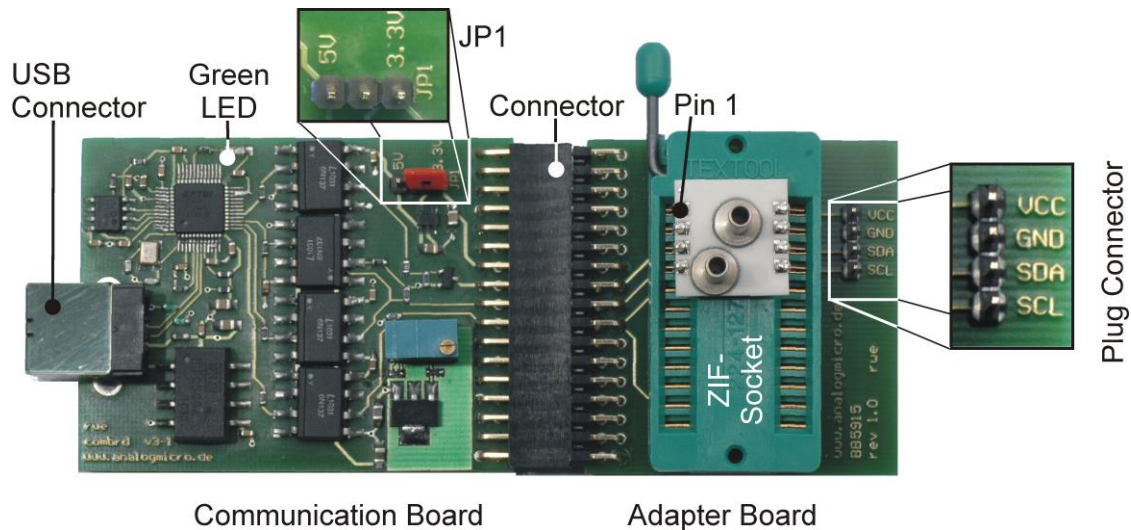

Figure 1: USB Starter Kit AMS 5915 with connected sensor.
The starter kit hardware consists of two printed circuit boards: the communication board *CB-I2C* and the adapter board *BB5915* with a ZIF-socket to connect one AMS 5915 sensor. Figure 1 shows the assembled kit with mounted sensor.
The connection between *CB-I2C* and *BB5915* is realised by a 34 pin connector. A zero injection force (ZIF) socket on the *BB5915* allows easy mounting and exchanging of an AMS 5915 pressure sensor. Pin 1 of the sensor is at the upper left edge of the ZIF-Socket (see Figure 1).
The sensor voltage can be chosen between 3.3V and 5V by jumper JP1 on *CB-I2C* (see Figure 1); for standard products of the AMS 5915 series JP1 is connected to 3.3V. Further, for exchanging the mounted AMS 5915 the sensor voltage supply can be turned off by removing JP1.
First, the adapter board *BB5915* for AMS 5915 sensor and the communication board *CB-I2C* are connected together by the 34 pin connector. Then, the AMS 5915 sensor has to be mounted into the ZIF socket on *BB5915* (orientation of pin 1: see Figure 1). The sensor supply voltage has to be set to 3.3 V with JP1 on the communication board *CB-I2C* (for standard AMS 5915 pressure sensors).
4. The green LED on the communication board flashes up, when the board is detected by the PC and the drivers are loaded successfully (see Figure 1).